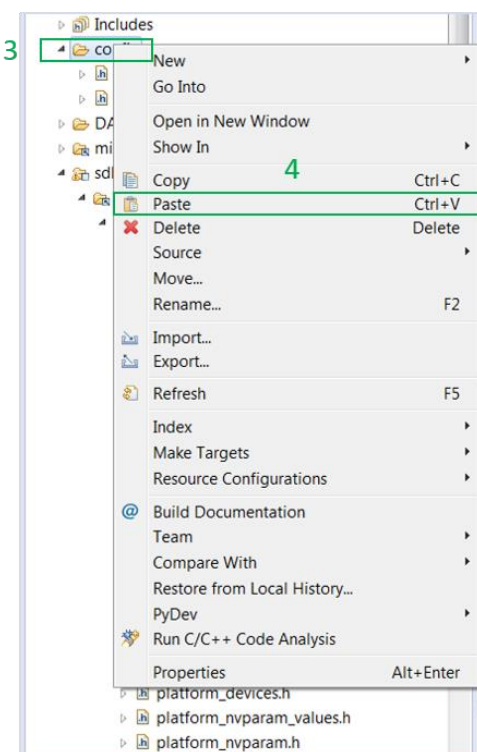

Figure 15: Creating platform\_devices.h Header File, Step 2
- Connect the DAC module to the Pro DevKit. Figure 15 illustrates the pin connections required to configure the MCP4822 module. For more information on the DAC module used, read the manufacturer datasheet.